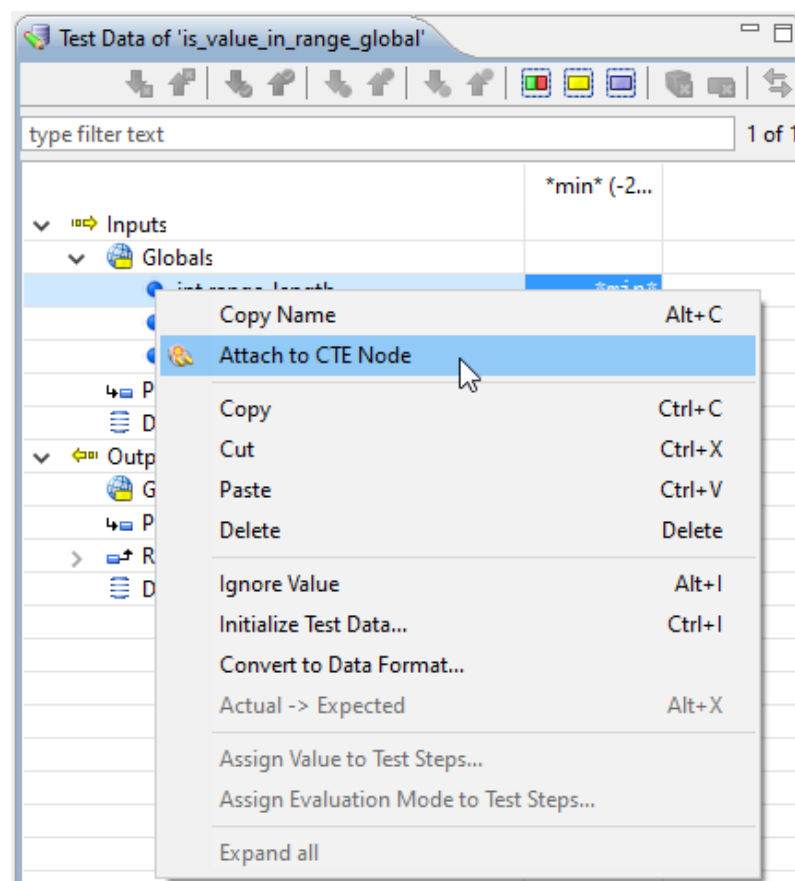

Figure 6.187: Attach the selected interface object
- In the context menu click “Attach to CTE Node” to associate the interface object with the selected node in the active CTE (see figure 6.187).